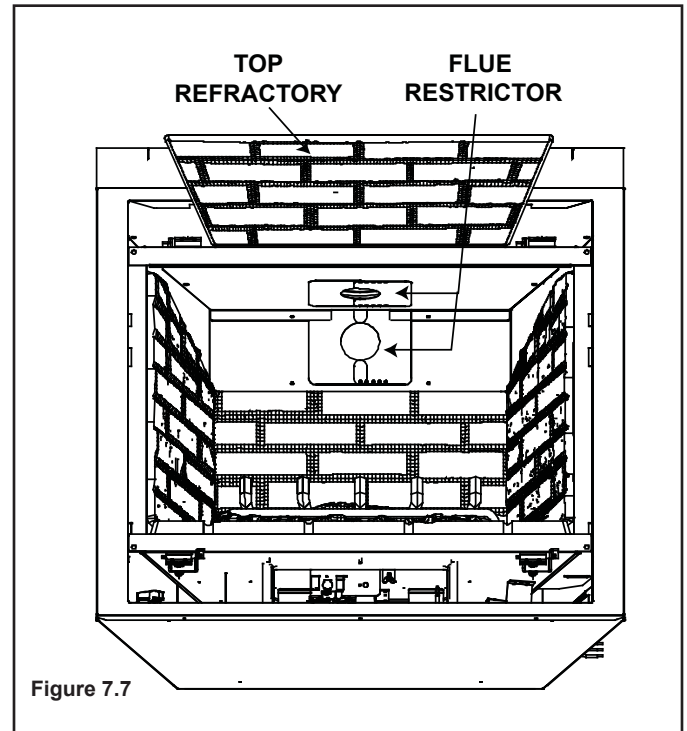

Figure 7.7
1. Remove the top piece of refractory, if already installed. See Figure 7.7.